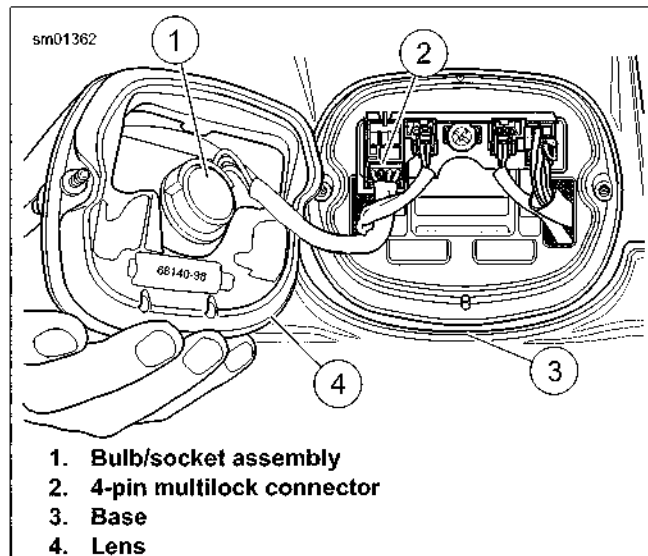

Figure 6-41. Tail Lamp
2. See Figure 6-41. Remove two screws and lens (4) from base (3).
4. Turn socket assembly (1) one-quarter turn counterclockwise to release assembly from lens. Remove (pull) assembly from lens. Remove bulb.